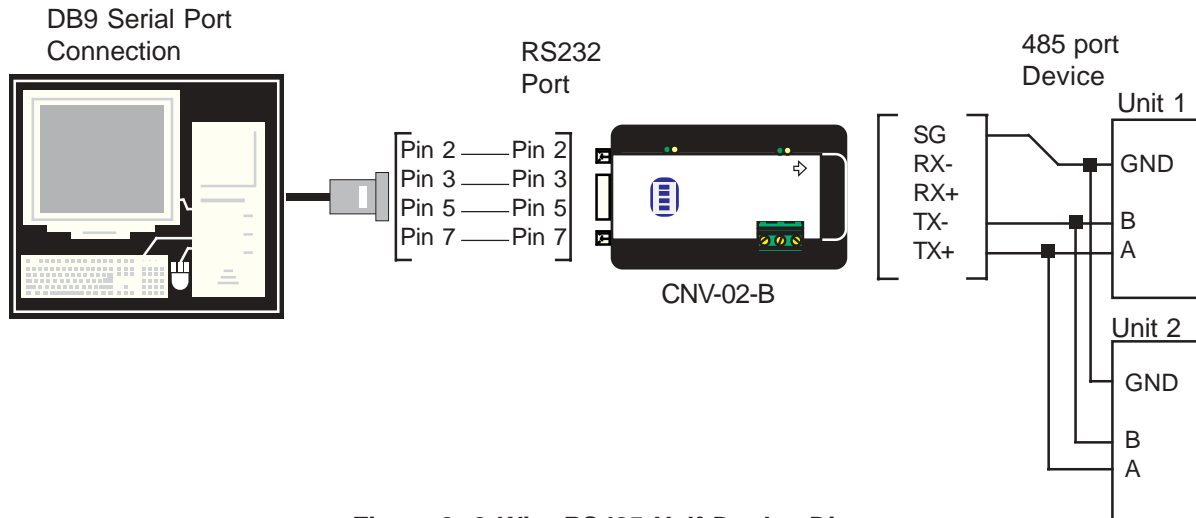

Figure 2: 2-Wire RS485 Half Duplex Diagram
Follow the wiring diagram in Figure 2 to connect the converter to 2-wire half-duplex network. For 2 wire communication, consider TX+ as (A) & connect it to network's (A), similarly consider TX- as (B) & connect it to network's (B).